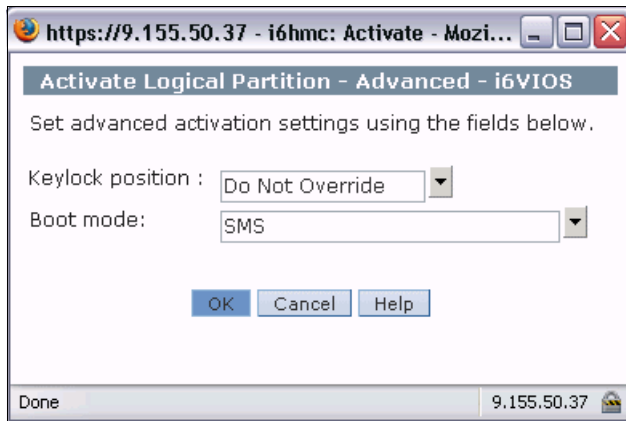

Figure 6-44 Activate Logical Partition: Advanced dialog
4. Choose boot mode **SMS** and click **OK** to, as shown in Figure 6-44.